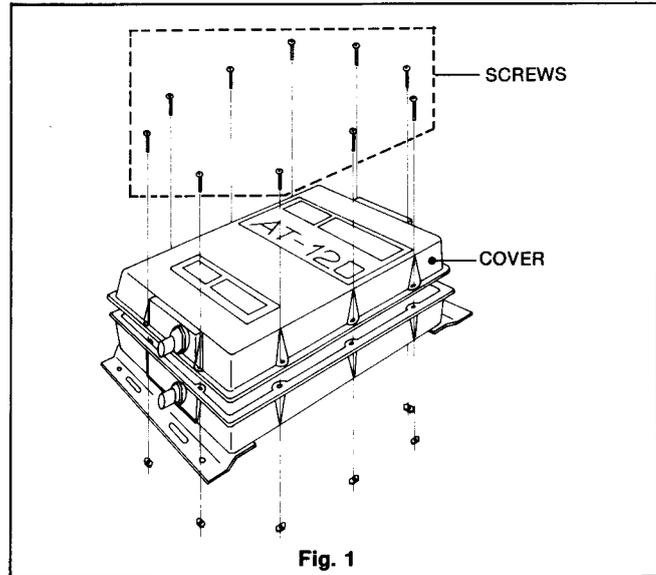

Fig. 1
8. To remove the cover of the antenna tuner, remove 10 screws as shown in Fig. 1.